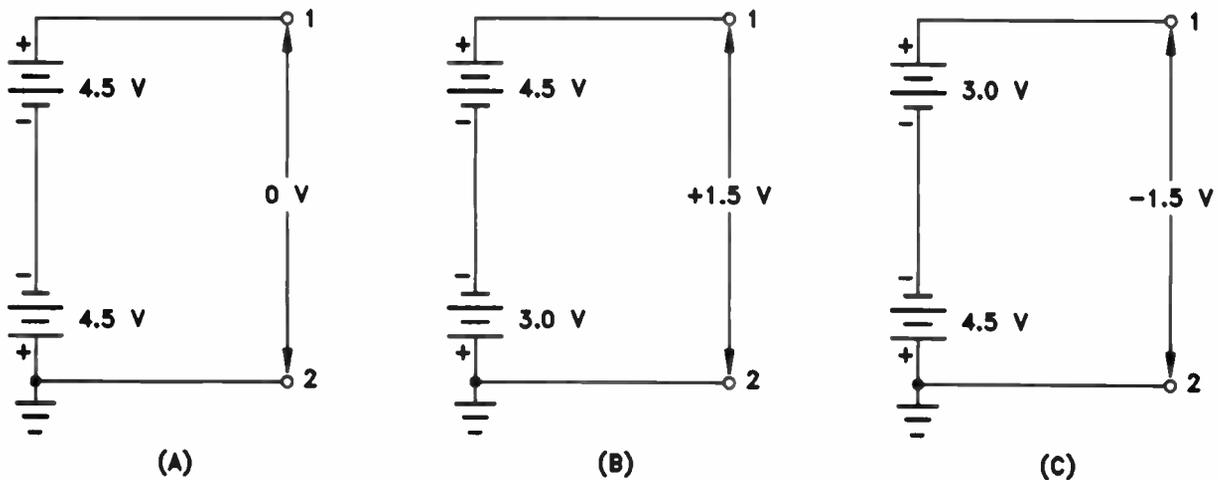

Figure 7. Batteries connected in series so their voltages subtract.
In Fig.7, we have three examples of batteries connected in series opposing. These batteries are connected so that their voltages oppose. To find the total voltage we subtract the battery voltages.
In Fig.7(A), each battery is a 4.5 V battery. When you subtract 4.5 from 4.5, the result is 0. Therefore, the potential between terminals 1 and 2 is 0 volts.
In Fig.7(B), we have batteries of unequal voltages. Subtracting the smaller voltage from the larger, we have  $4.5 - 3.0 = 1.5$  volts. Since the positive terminal of the larger battery connects to terminal 1, terminal 1 will be 1.5 V positive.
In Fig.7(C), we have the opposite situation. The positive terminal of the 4.5 V battery connects to terminal 2. Therefore, terminal 2 is positive with respect to terminal 1, or, in other words, terminal 1 is 1.5 V negative.
- 4 Two batteries are connected as shown in Fig.7(B). One battery is a 45 V battery with its positive terminal connected to terminal 1, and the other battery is a 22-1/2 V battery with its positive terminal grounded. What is the voltage at terminal 1 with respect to ground?